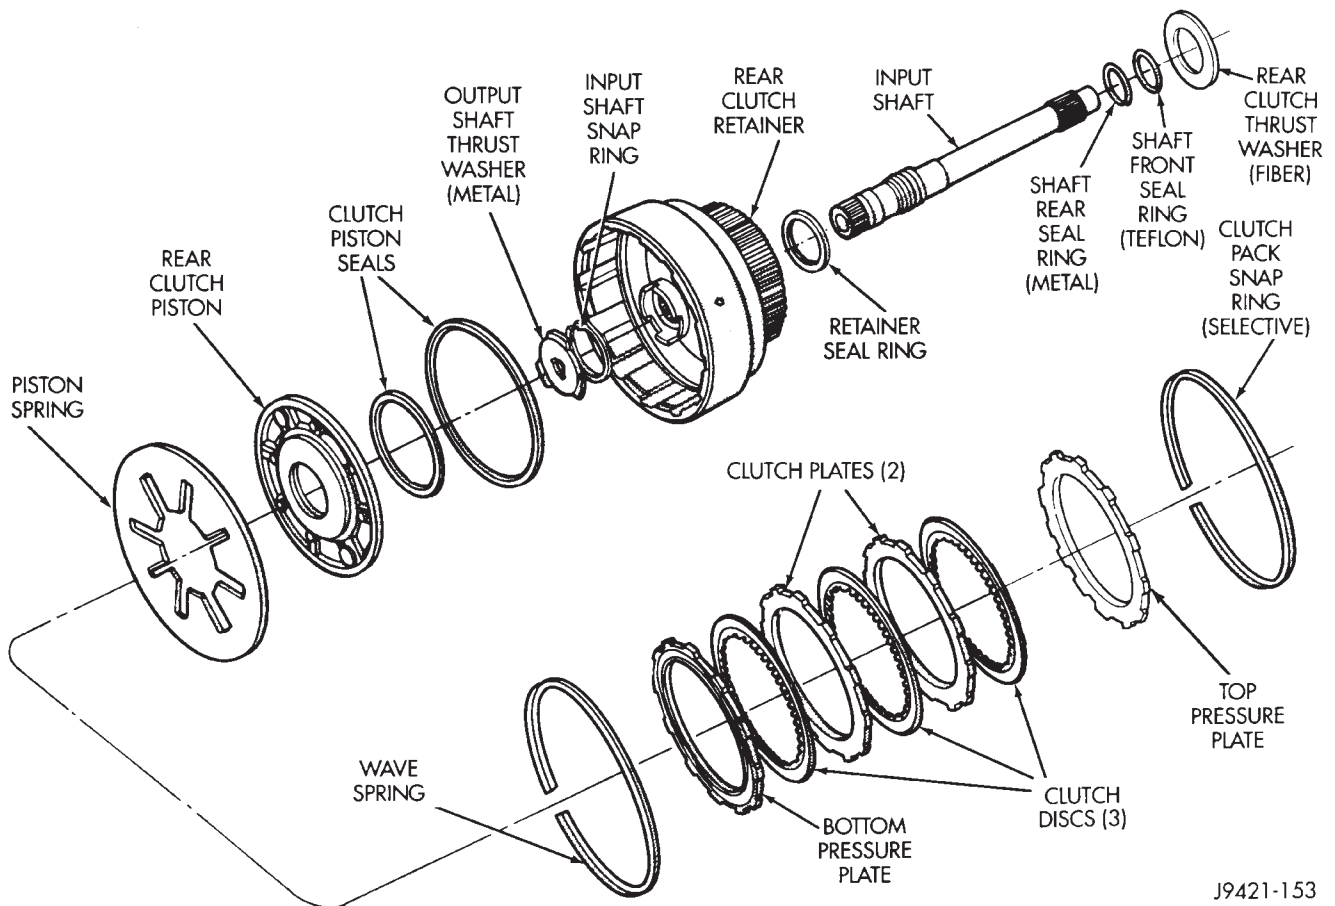

Fig. 70 Rear Clutch Components (30RH)
- (1) Remove fiber thrust washer from forward side of clutch retainer.
- (2) Remove selective clutch pack snap ring (Figs. 70 and 71).
- (3) Remove top pressure plate, clutch discs, steel plates, bottom pressure plate and wave spring (Figs. 70 and 71).
(10) Install bottom pressure plate (Fig. 70). Ridged side of plate faces downward (toward piston) and flat side toward clutch pack.
(11) Install first clutch disc in retainer on top of bottom pressure plate. Then install a clutch plate followed by a clutch disc until entire clutch pack is installed.
- 3 discs and 2 plates are used in 30RH (Fig. 70)